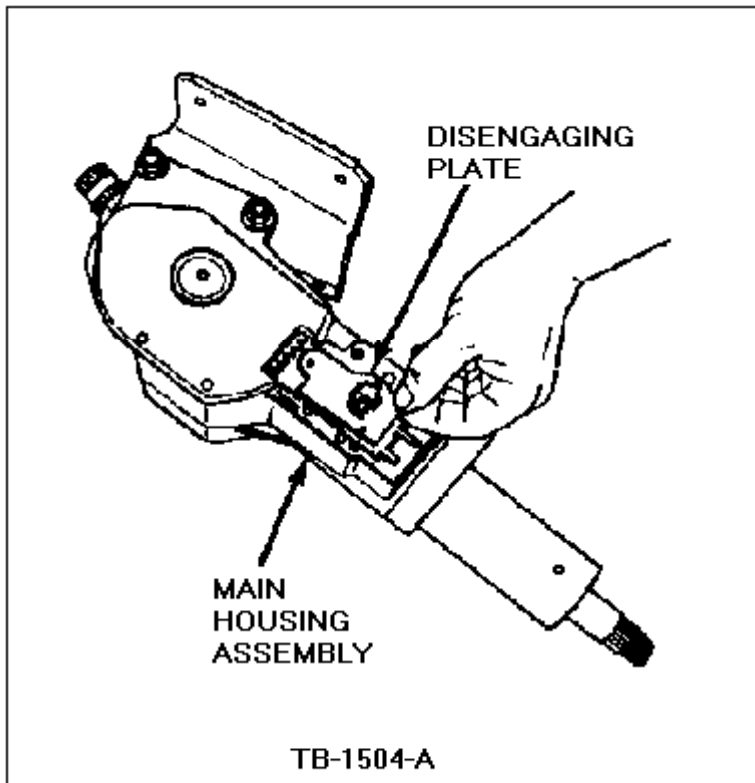

Figure 37 - Article 90-5-10
35. Lightly grease and assemble the disengaging plate with the tabs up over the locking bar and wedge lock locating pins, Figure 37.